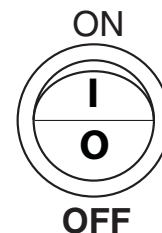

Fig. 31-1
1. Locate the ON/OFF switch at the front of the switch box. Press the switch to the **OFF (O)** position. See Fig. 31-1.